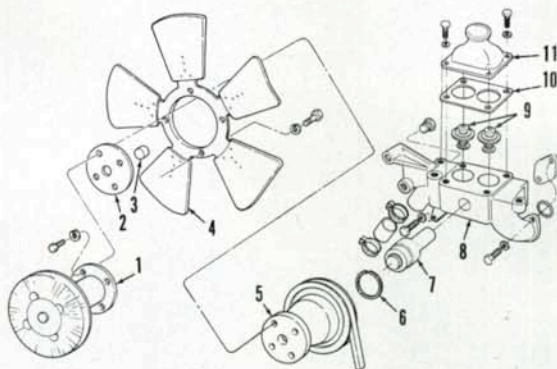

Fig. 137—Exploded view of thermostat housing and fan drive assembly used on all models.
90. A 13 psi (90 kPa) radiator pressure cap is used on all models. All models are equipped with two thermostats (9—Fig. 137) which are located in the thermostat housing at front of cylinder block. The thermostats should start to open at a temperature of 178° F (81° C) and be fully open at 203° F (95° C).
91. A temperature sensing, viscous drive fan drive clutch (1—FIG. 137) is used on all models. The fan pulley (5) is supported by a shaft and bearing assembly (7) located in the front of the thermostat housing (8).